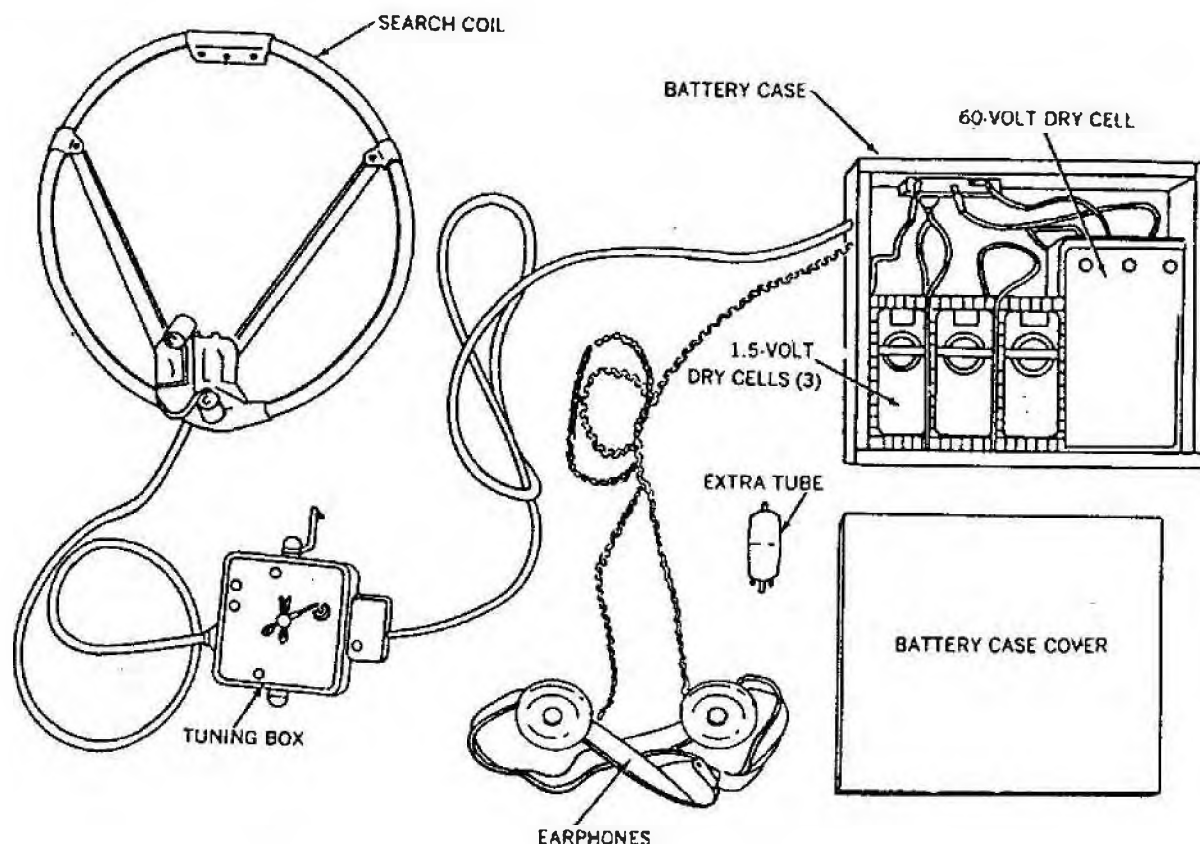

Figure 7-14. Soviet mine detector, Model VIM, 203M.
a. *Types.* Two versions of this portable detector have been produced. One has a circular search coil or search head (described here, fig. 7-14); the other is rectangular. Both magnetic induction type detectors are battery powered, will operate continuously for 30 hours, and can detect metallic